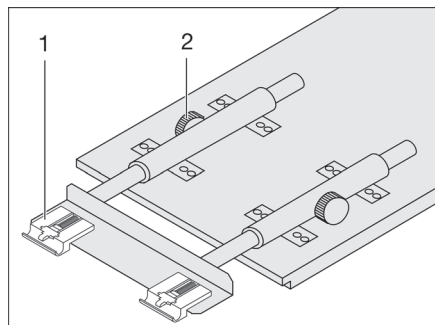

Fig. 64 Extend suspension table
- ▶ Undo the knurled screws (Fig. 64,2).
- ▶ Lift the table-top slightly and pull out it out as far as possible. The table extension (Fig. 64,1) is fully extended.
- ▶ Lift the table-top slightly and push it back as far as possible. The table extension (Fig. 64,1) is fully retracted.